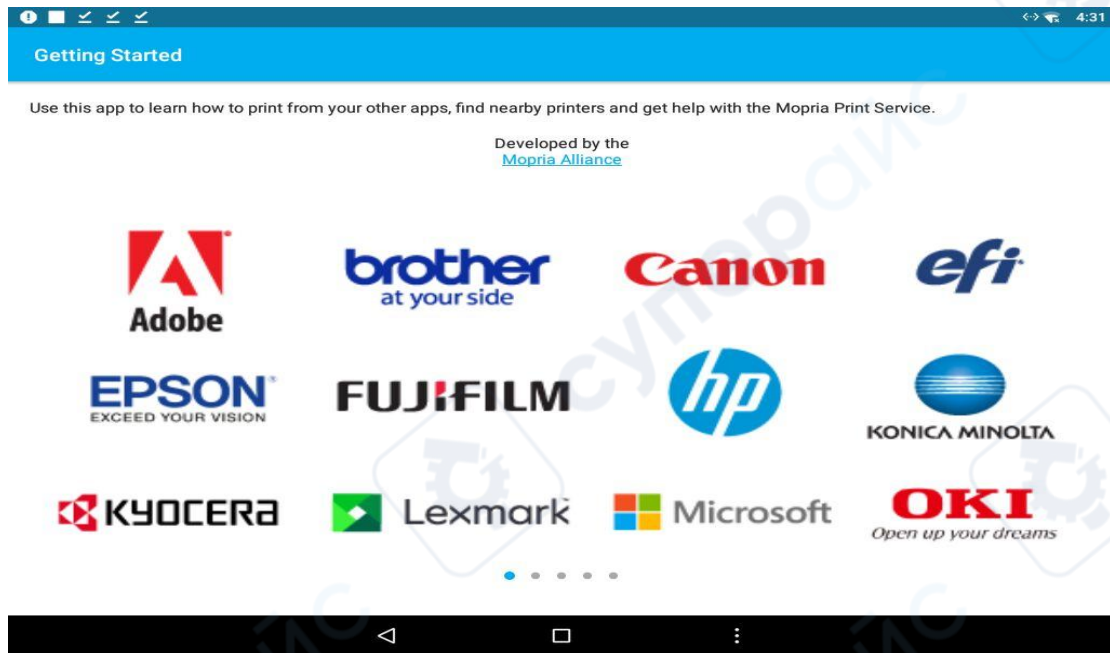
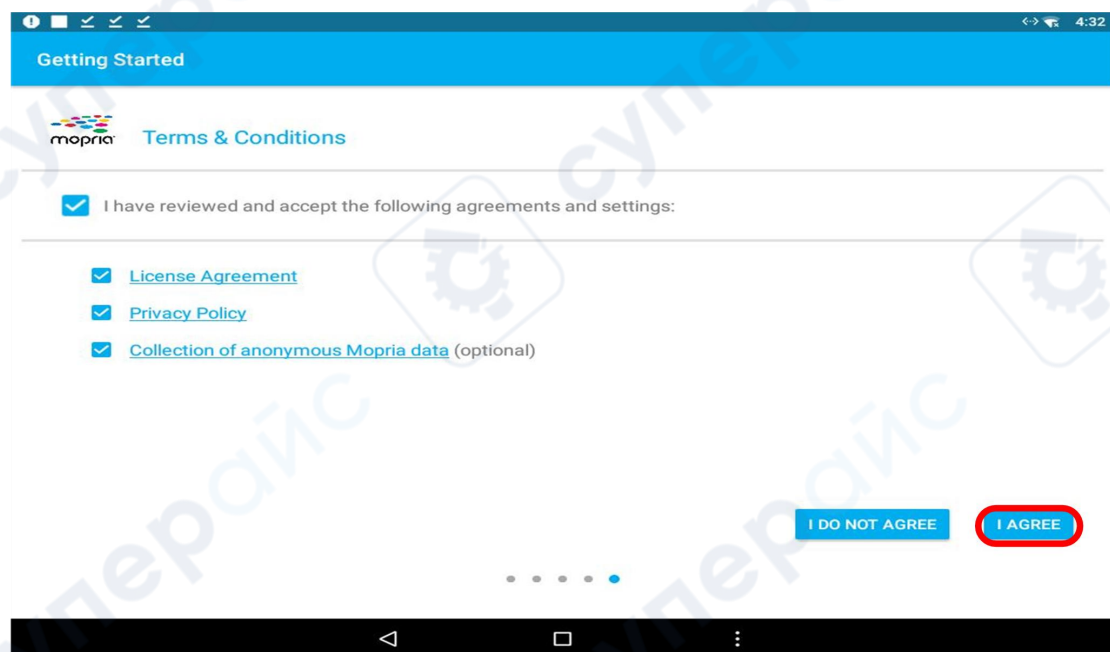

Figure 6
Figure 7
3、Open the installed printing software, as shown in Figure 6. Go to the last page and check "**Agree**" license agreement and privacy policy. Click "**I AGREE**" to start using the software, as shown in Figure 7.